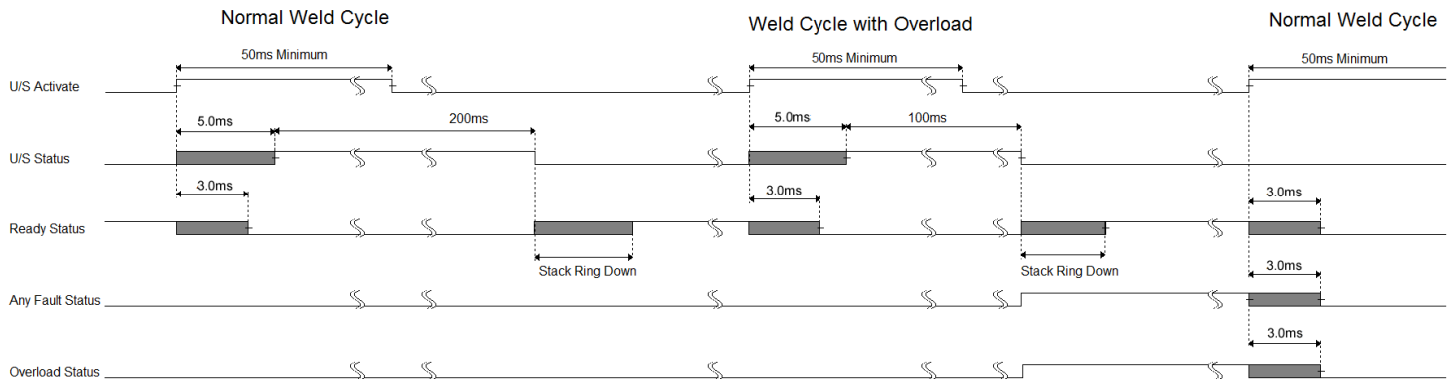

Figure 2: LS / LS-E Weld-by-Time Cycle Timing Diagram
**Normal Weld Cycle:** This is a Weld-by-Time cycle, meaning the Ultrasound output lasts as long as the Time Setting, which is 200ms in this case. A LS / LS-E generator requires communications interface such as Ethernet/IP to configure the weld by Time, Peak Power, and Energy settings. While it is strongly recommended that the communications network be used instead of the discrete I/O, the network and discrete I/O can be used together. Figure 2 shows the timing for weld cycles that were configured via the network interface, but ultrasound is activated using the US Activate input instead of the network. As with Weld-by Automation, the Ready Status output should be used to determine if the generator is ready to start a new weld cycle. As seen in Figure 2, the Ready Status output requires a minimum of 3ms to change to its deactivated state after the U/S Activate input is activated. At the end of the normal weld time, there is stack ring down time, which is stack and application dependent, and may make this time much longer. The Ready Status output activates after a minimum of 1.5ms or when the ring down time is complete, whichever occurs first. For correct operation, a PLC controlling an LS / LS-E generator must delay at least 1.5ms after activating the U/S Activate input before checking the Ready Status output. Since the U/S Status output takes up to 5.0ms to change state, a 5.0ms minimum delay is required when monitoring this output. If a network is connected to the generator, then the US Activation can be controlled by the network. The same is true for monitoring the status outputs. The delays will vary with the network based on network settings, number of devices on the network, etc.